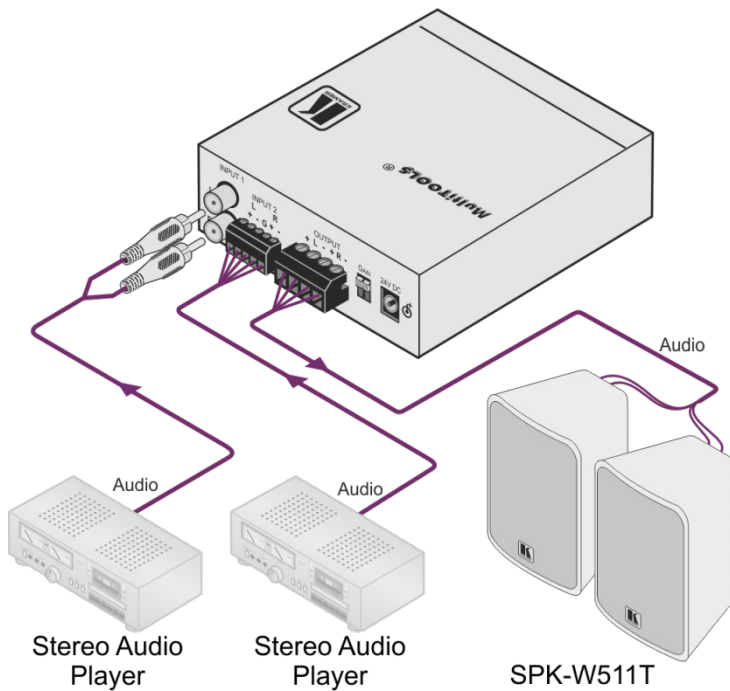

Figure 7: Installing the SPK-W511T
6. Repeat step 5 for the other speaker (see Figure 7).
You can connect the **SPK-W511T** speakers to an amplifier, for example the Kramer **907xl** Power Amplifier/Mixer, as illustrated in Figure 7: